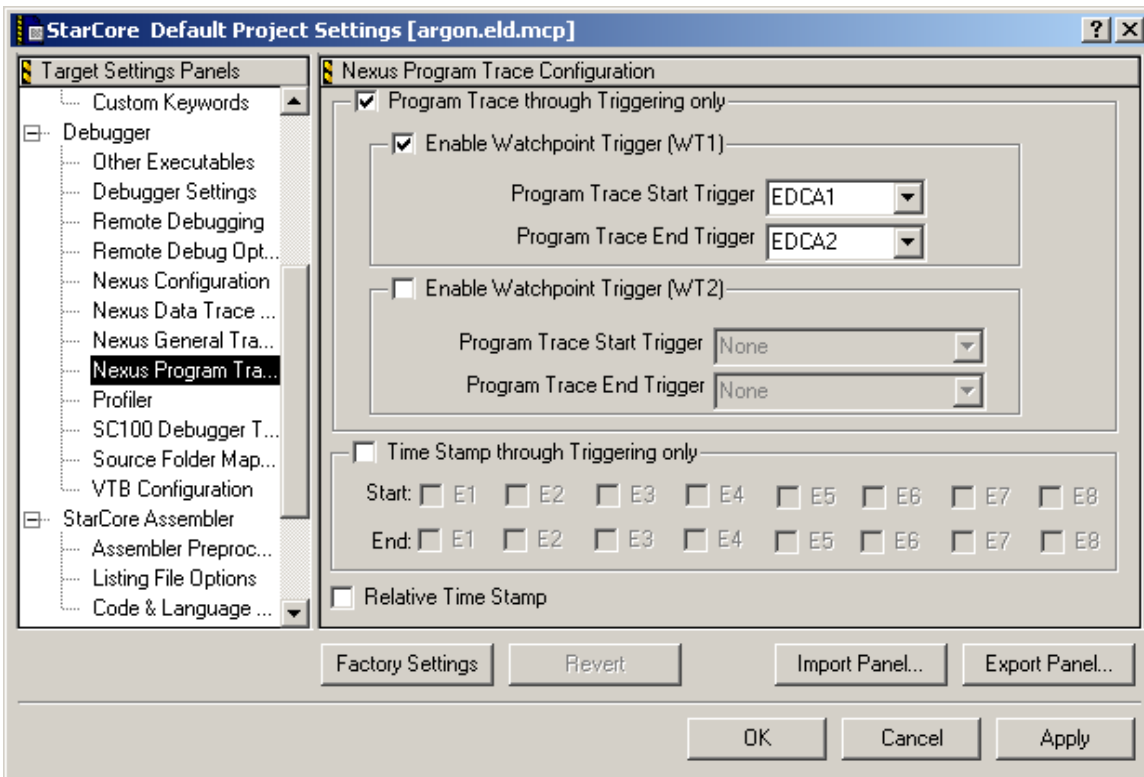

Figure 26: Nexus Program Trace Configuration
- b. Nexus Program Trace Configuration: Figure 26: Nexus Program Trace Configuration shows the setup for program trace. This setup dictates that tracing shall start when EDCA1 occurs and tracing shall stop when EDCA2 occurs. This is done to limit the program trace data collected.